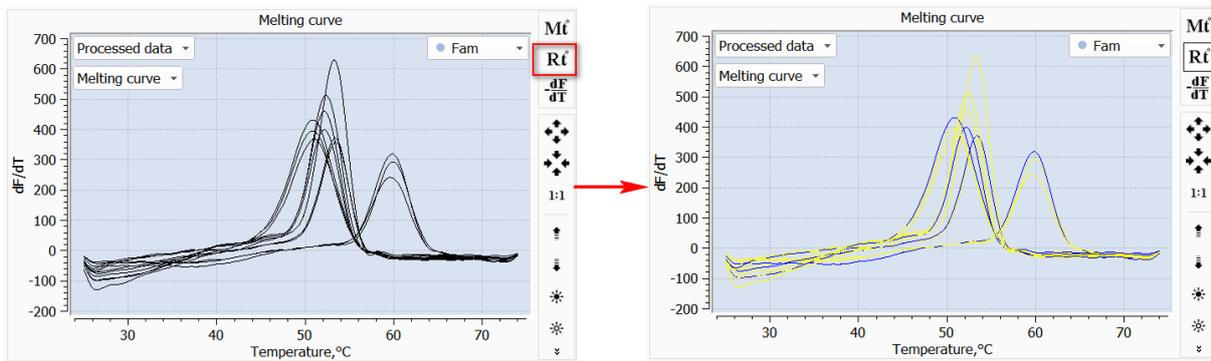

Figure 70 – An example of using the **Color result mode**
- **Color result** [Rt°] – color the curves based on the analysis results (fig. 70);